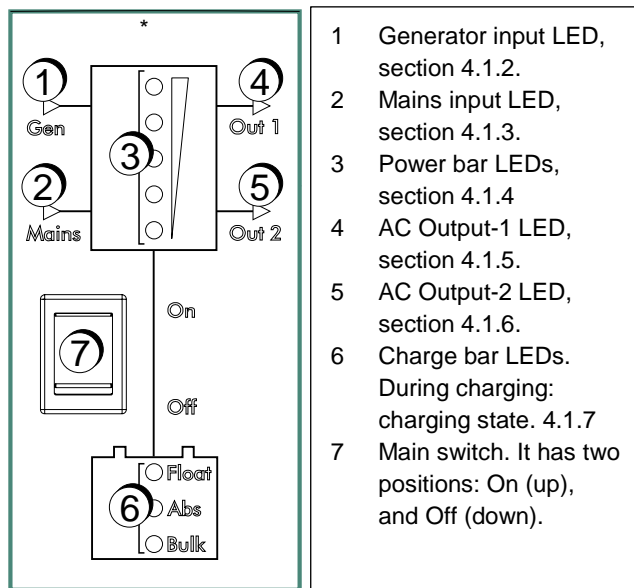

Figure 4-1: Front panel
See figure 4-1. The operation of the Mass Combi Pro is displayed by means of LED indicators at the front side of the housing. If the Mass Combi Pro is activated and as long as none of the red indicators are illuminated, no failure is detected and the unit is operating normally.
See figure 4-1 item 1. The arrow is illuminated if AC power comes from the generator.
See figure 4-1 item 2. The arrow is illuminated if AC power comes from the mains.
See figure 4-1 item 3. These LEDs have a double function, depending on the mode the Mass Combi Pro is in.
See figure 4-1 item 4. The illuminated arrow indicates that AC Output-1 is powered.
See figure 4-1 item 5. The illuminated arrow indicates that switched AC Output-2 is powered.
See figure 4-1 item 6.
See figure 4-1 item 7. The only control on the Mass Combi Pro itself is the main switch on the front of the unit. This switch controls on, off and Inverter off (Charger only).